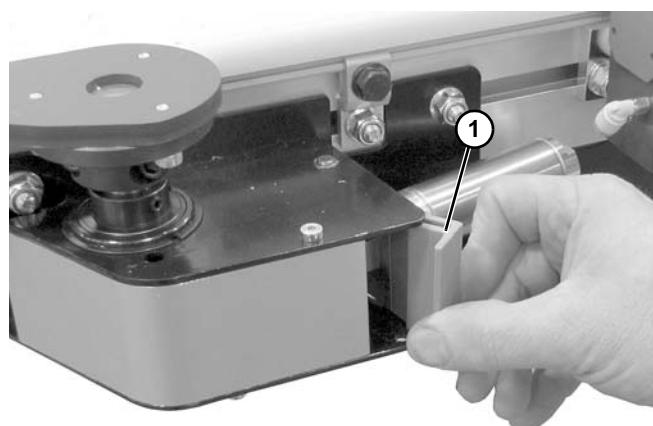

Figure 35
- d. Remove guard (**Figure 35, item 1**).